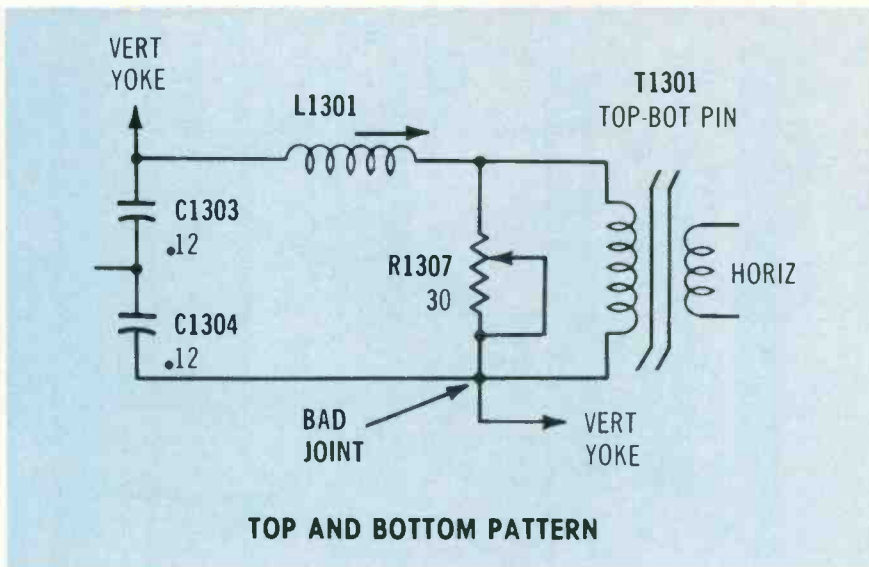
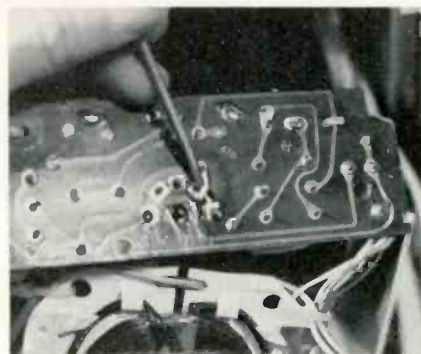

Figure 2 A bad soldering joint in this 25EC58 Zenith pincushioning circuit produced the peculiar pattern shown in Figure 1.
Figure 3 Location of the bad joint at T1301 is pointed out by the screwdriver blade.
Signal from the secondary of T101 drives the base of horizontal output transistor Q100 through a network of capacitors and resistors (Figure 2). Figure 4E shows the zero-voltage line and the +1.1Vdc positive peak of the base waveform that controls Q100 conduction.
Figure 5 (A) All four traces have the same phase. Top trace is the Q407 collector signal (same as W11 in Figure 2). Second trace shows the Q100 B/E waveform. Its rising edge occurs simultaneously with that in the driver waveform. However, the falling edge lingers longer than the driver edge that produced it. This is W12 in Figure 2. Trace 3 is the Q100 collector current, and Trace 4 shows the HV pulses from the flyback. (B) These waveforms contrast the T101 secondary waveform (top trace) with the Q100 B/E waveform (bottom trace). The T101 secondary waveform shows the primary waveshape with parts of the Q100 base waveform added.
This particular defect was caused by a cracked soldering joint in the top/bottom pincushion circuit (see Figure 2 schematic) located on a circuit board that was mounted on top of the deflection yoke. The bad joint is pictured in Figure 3.
An incorrect line appeared in the Figure 2 schematic on page 26 in *Electronic Servicing* for January, 1980. Please delete the line marked in this partial schematic.